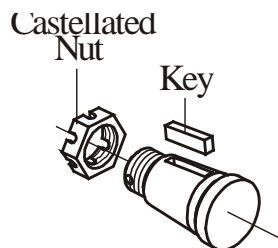

Fig.11
22. Install key in shaft key groove. For cone shafts screw castellated nut. (see Fig.11).